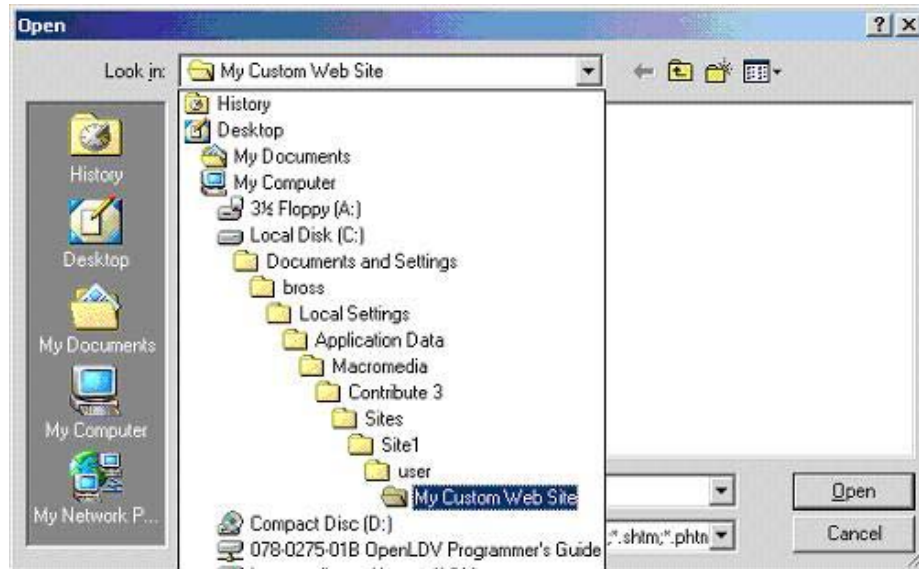

Figure 13.69 Open File Window
2. From the **File** menu, select **Open** and browse to the project folder for your *iLON 100* Web site. Your project folders are stored in the Documents and Settings/User/Local Settings/Application Data/Macromedia/Contribute 3/Sites directory of your computer, as shown in Figure 13.69.